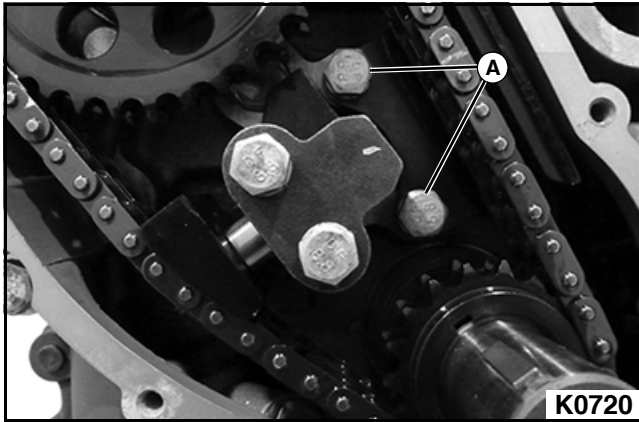

Figure 3-187
1. Install the timing chain vibration damper to the cylinder block with two bolts, lock washers, and flat washers (A). **See Figure 3-187.**